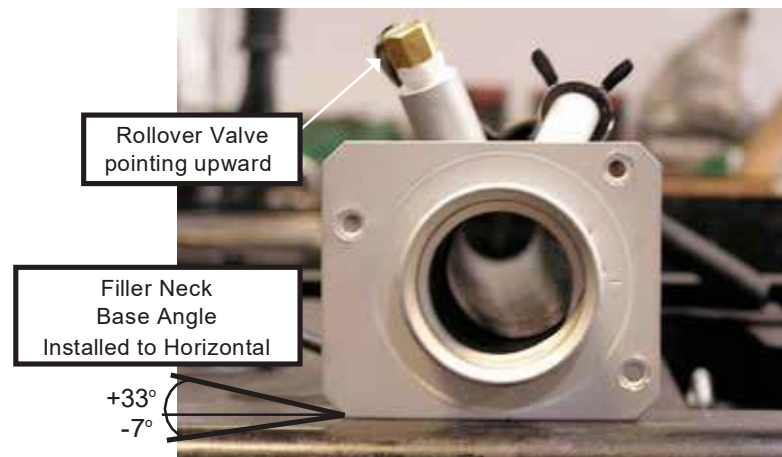

Figure 13.31.2
The fuel filler neck (5) must be installed with the proper orientation on the body. The neck should be installed with the roll-over valve pointing upward, with the bottom edge of the neck oriented parallel to the ground, plus 33 to minus 7 degrees. See **FIGURE 13.31.2** for the proper orientation.